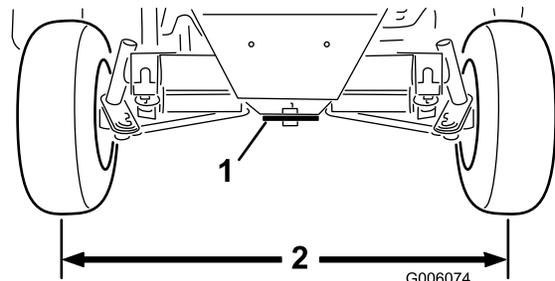

Figure 58
- Loosen the jam nuts on both tie rods. Adjust both tie rods until center-to-center distance at front and back of rear wheels is the same (Figure 58).